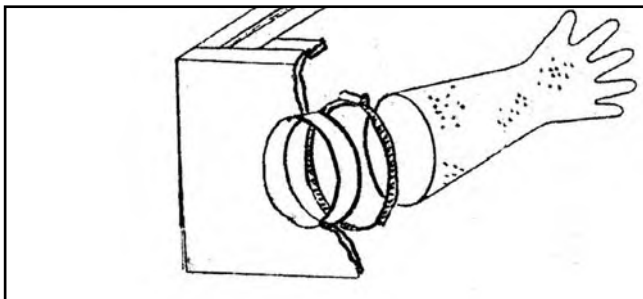

Figure 4. Glove installation.
4. Install the gloves as shown in **Figure 4**.